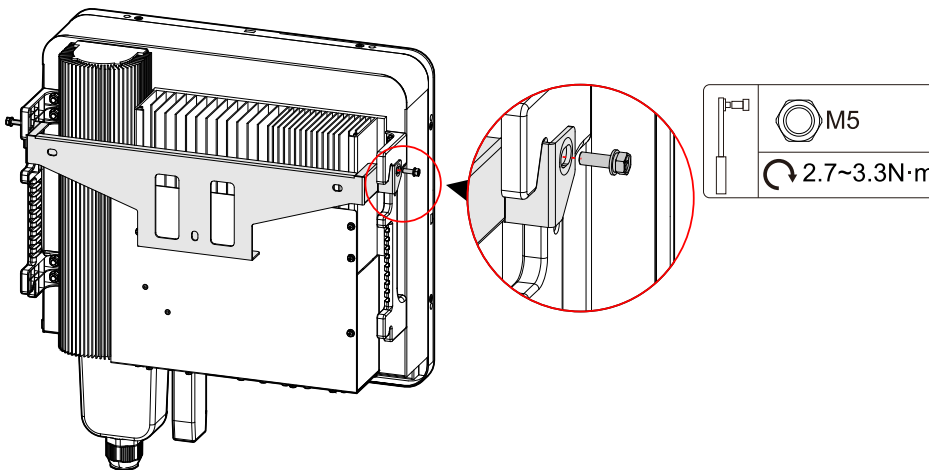

Figure3-12 Fasten the inverter
Step 6 Fasten the inverter to the installation holder by the equipped stainless steel combination bolt M5\*16 and then lock it, as shown in Figure3-12.